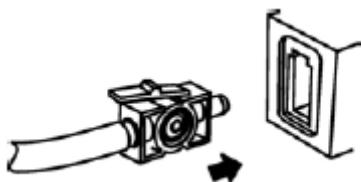
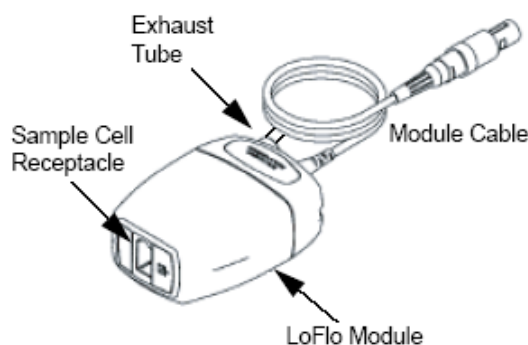

Fig.5-9-2
Fig.5-9-3
1) Insert the LoFlo sample cell into the LoFlo sample cell receptacle. A “click” will be heard when the sample cell is properly inserted. (Fig.5-9-2, Fig.5-9-3)